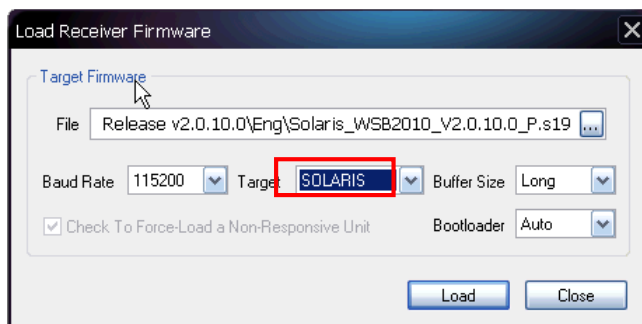

Figure 27: Settings for GNSS Firmware
- Select SOLARIS to upload GNSS firmware (see Figure 27):